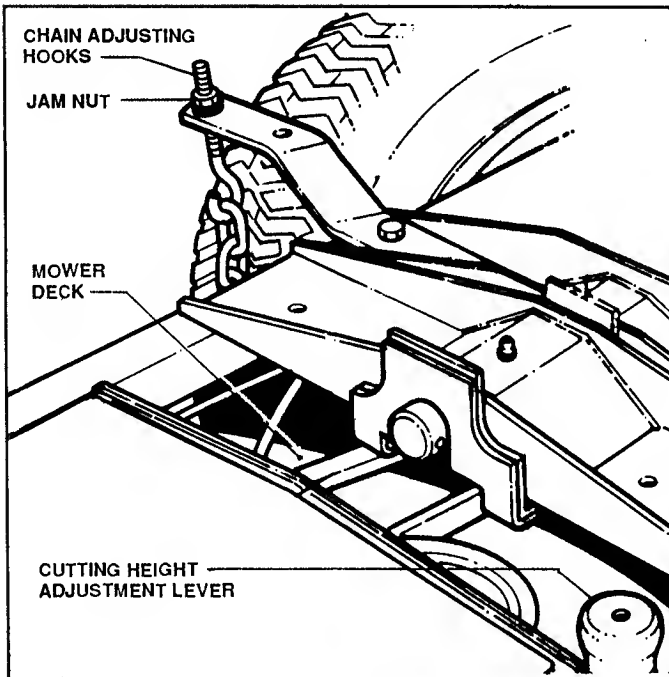

FIGURE 14
- D. If adjustments are required, turn the chain adjusting hooks until the deck is level. See Figure 14.